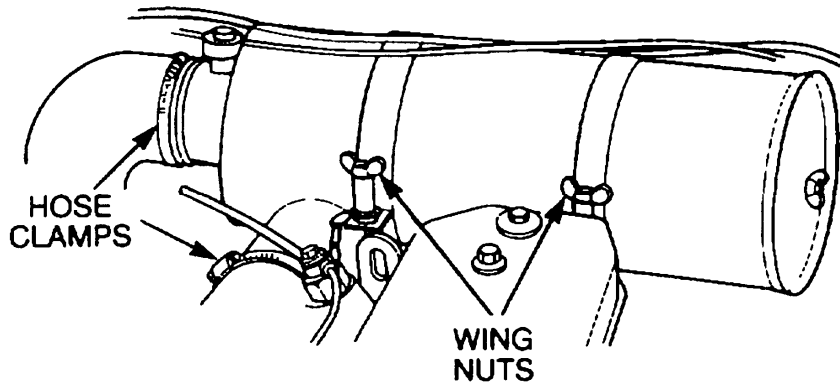

Figure 41 Air Cleaner Assembly Removal
- b. Remove the two wing nuts from the clamp bolts (Figure 41).